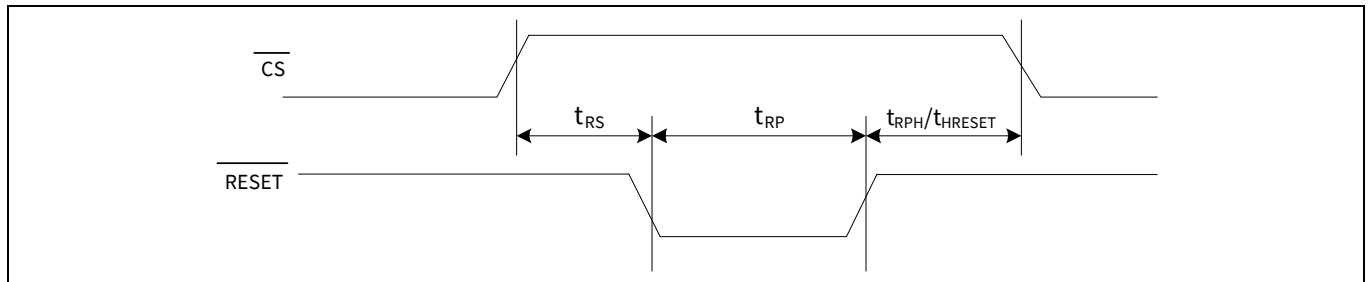
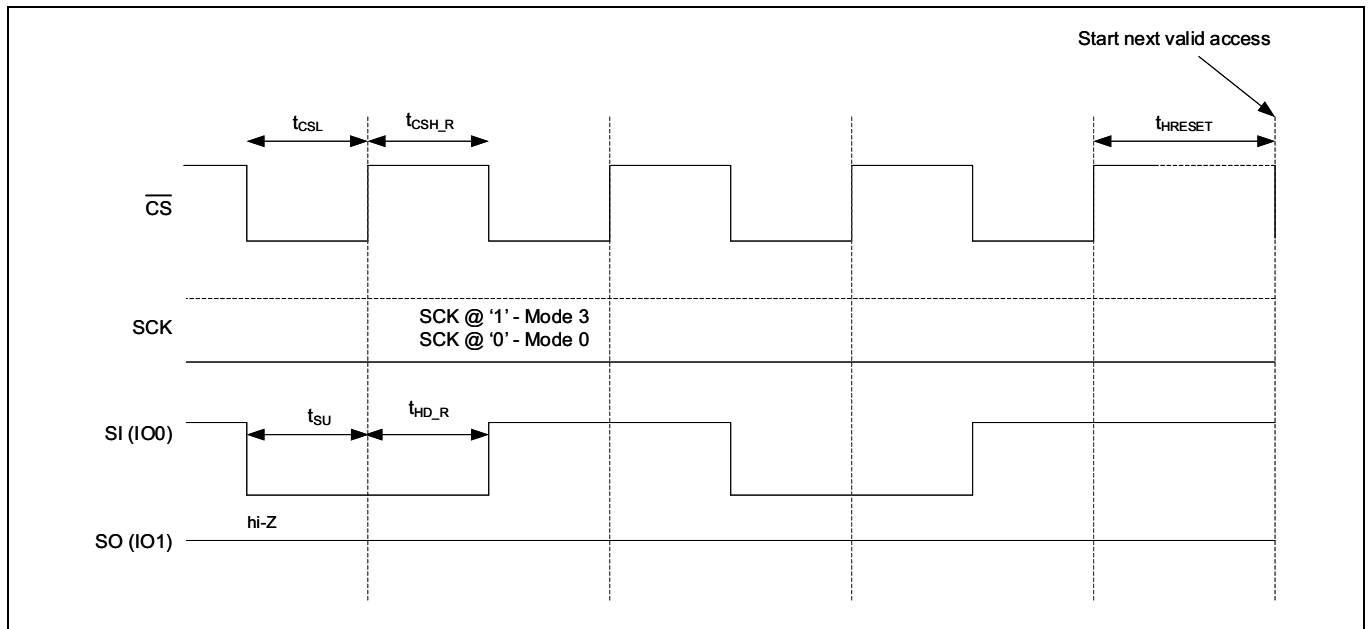

Figure 110 $\overline{\text{RESET}}$ timing - SPI with QUAD set (CR1[1]='1') or QPI enabled (CR2[6]='1')
Figure 112 JEDEC SPI reset
The hardware reset input ($\overline{\text{RESET}}$) is multiplexed on ($\overline{\text{RESET}}$ / I/O3) and is an active LOW signal in CY15x104QSN device. Refer to Table 21 for hardware reset ($\overline{\text{RESET}}$) pin configurations across various SPI interfaces. When $\overline{\text{RESET}}$ is pulled LOW, CY15x104QSN self initializes and brings its configuration back to the power up status. Refer to Table 59 for different registers configuration after $\overline{\text{RESET}}$ cycle. Once $\overline{\text{RESET}}$ is issued, CY15x104QSN takes $t_{\text{RPH}}/t_{\text{HRESET}}$ time from $\overline{\text{RESET}}$ rising edge to complete the reset cycle. CY15x104QSN becomes inaccessible during t_{RPH} time. Figure 110 to Figure 112 show the $\overline{\text{RESET}}$ timings in different reset mode.
- The $\overline{\text{RESET}}$ pin is multiplexed on I/O3 in the QPI mode. When using the hardware ($\overline{\text{RESET}}$) in QPI mode, the CR2 [5] bit must be set to '1' to enable to use I/O3 as $\overline{\text{RESET}}$ input when $\overline{\text{CS}}$ is HIGH. Figure 110 shows the $\overline{\text{RESET}}$ / (I/O3) timing in QPI mode
Refer to Figure 112 for timing details.